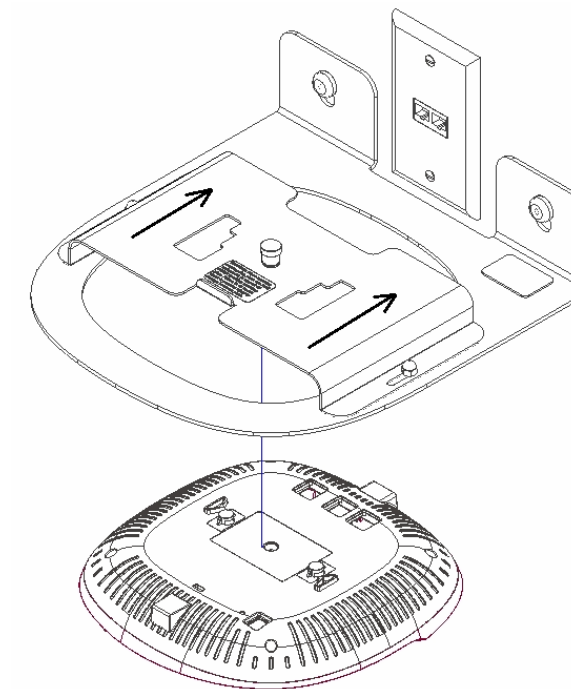

Figure 2
Step 5- After the mounting plate has been pushed towards the wall, use one hand to lift the AP325 access point into the opening with the Ethernet connectors facing towards the wall (Ref figure 2).